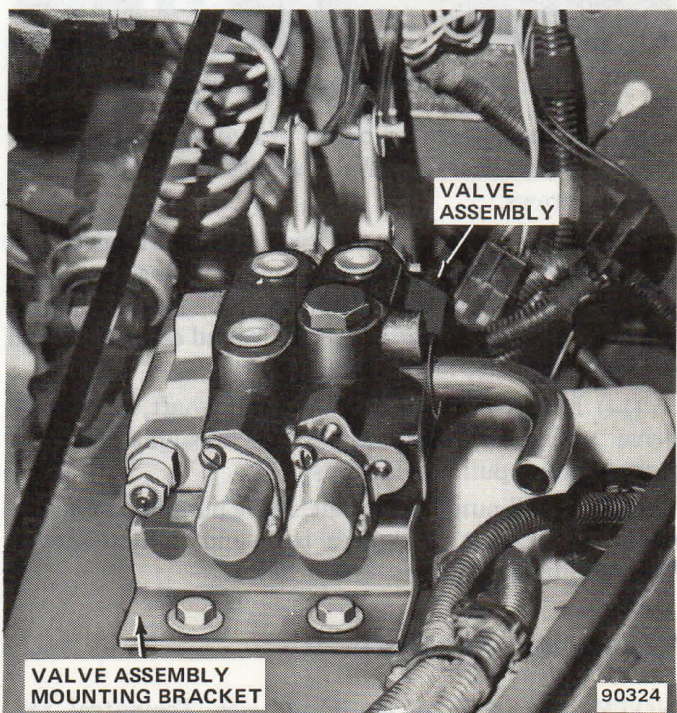

Fig. 1-34 Valve Assembly Installation
(2) Mark and drill holes for valve bracket.
(3) Form support brackets out of slotted bar stock for rear and inner side of bracket.
(4) Install valve mounting bracket.
(5) Install valve assembly on bracket (fig. 1-34).